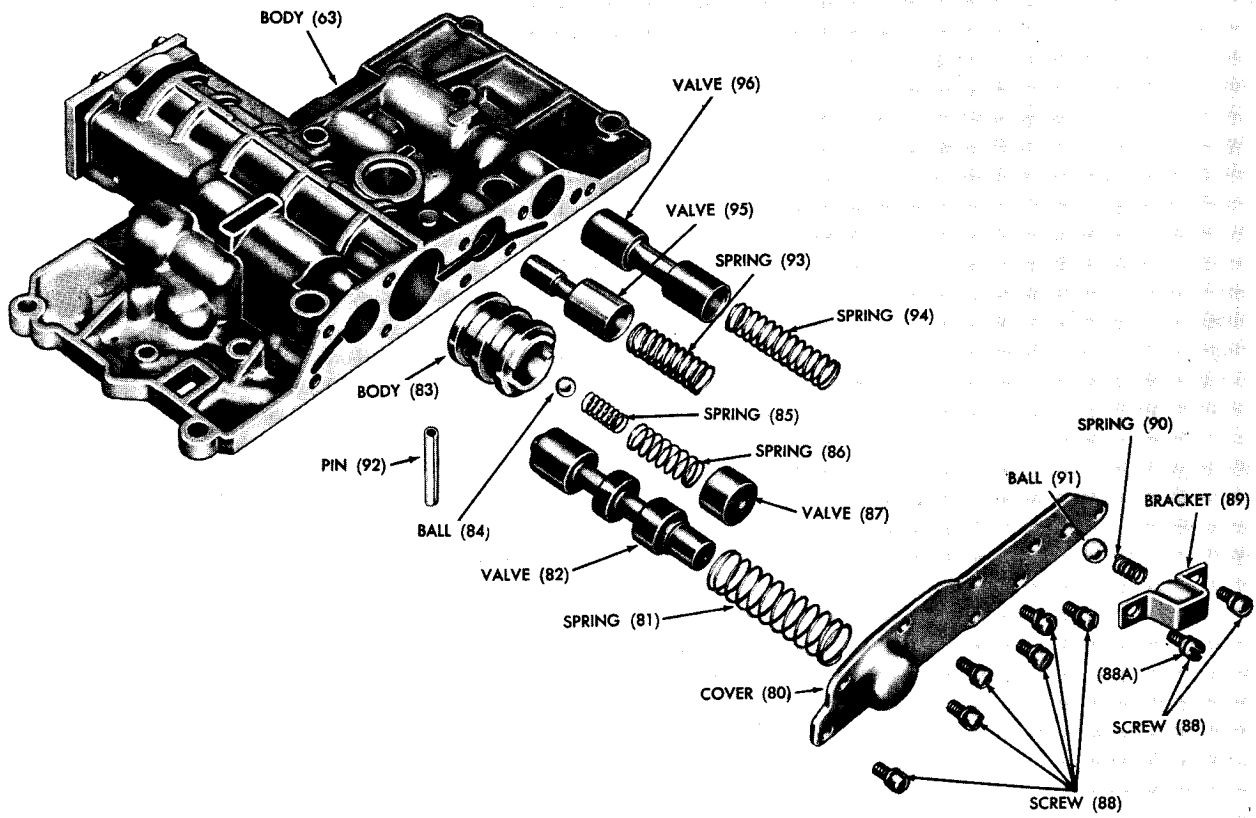

Fig. VIII-2 Exhaust regulator valve body, front end — exploded view
(3) Exhaust regulator valve body, front end (fig. VIII-2)